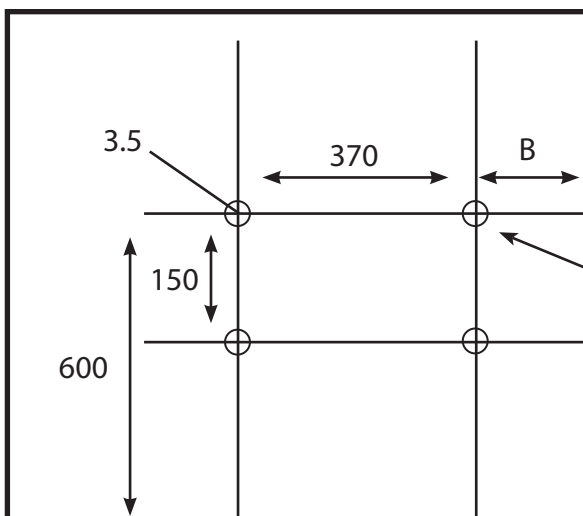
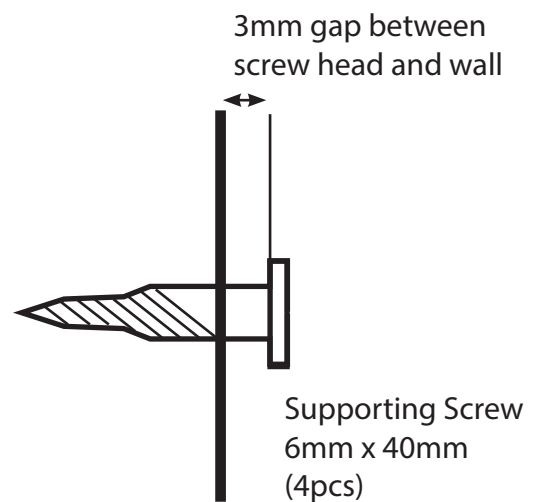

Fig. 5.4a
Fig. 5.4b
- x. The upper supporting screws must be fixed tightly, there is a 3mm gap between the screw head and wall (refer fig 5.4a, fig 5.4b), additional retaining screws should be inserted into the round holes to prevent the heater being lifted.